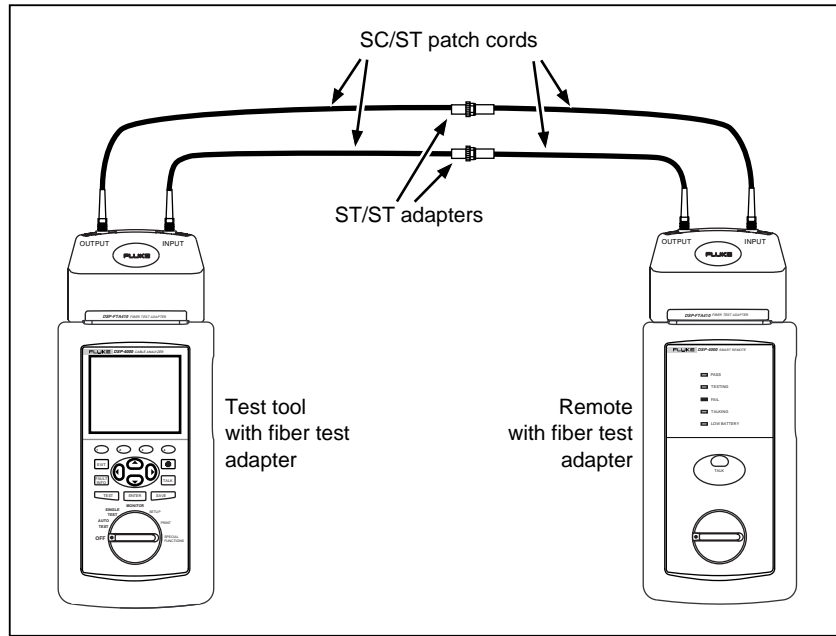

Figure 3. Setting a Reference for Smart Remote Mode
1. Turn the rotary switch to SETUP. Set the **Remote End Configuration** to **Smart Remote Mode**. Connect main and remote UUTs as shown in Figure 3. Turn on the remote unit.